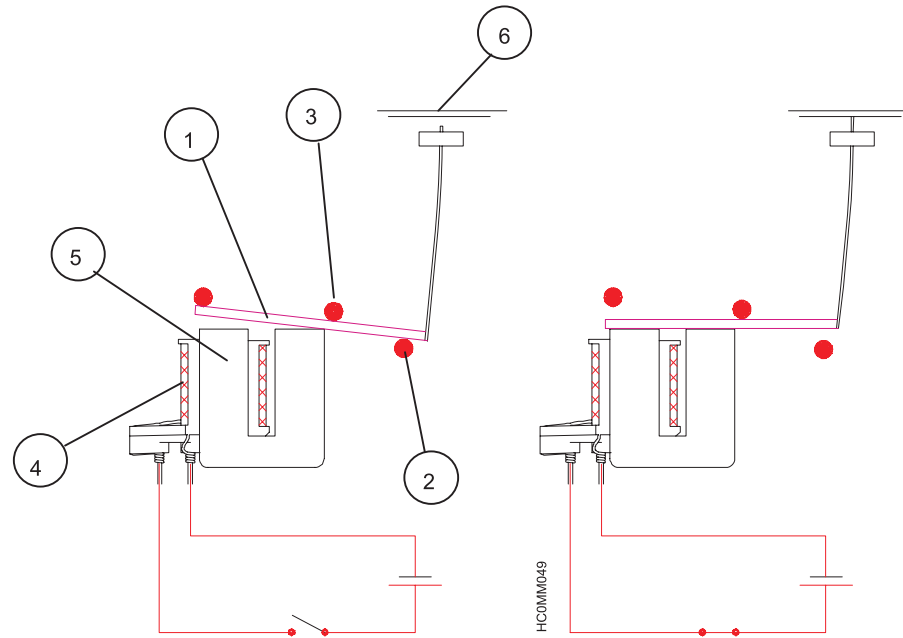

Figure 14. Needle Operation
With reference to Figure 14, when the actuator is at rest, the Clapper (1) is pushed against the central Stop (2) by the hinge O-Ring (3).